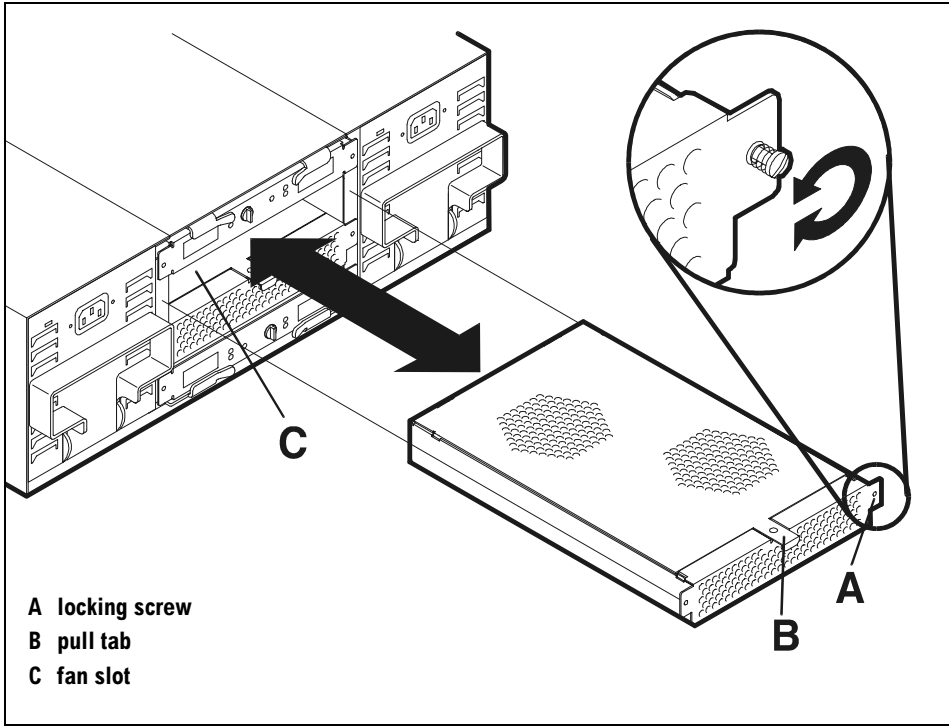

Figure 44 Fan Removal and Replacement
1. Loosen the two locking screws (A in Figure 44) until they clear the disk system chassis. The screws stay with the fan.
2. Pull the fan out of the chassis by the metal tab (B).
3. Insert the replacement fan into the empty slot (C in Figure 44).
5. Tighten the locking screws (A).